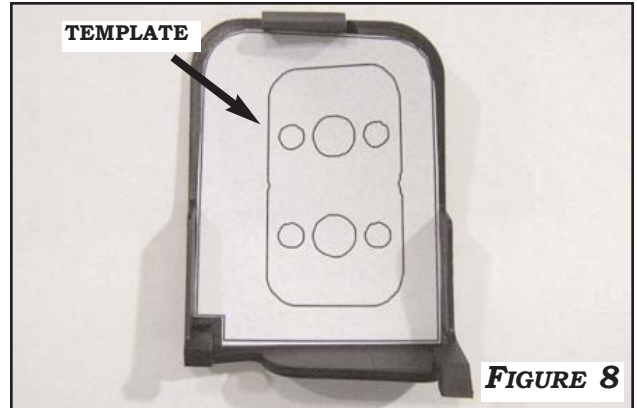

FIGURE 8
1. USING THE **SWITCH HOLE CUTTING TEMPLATES** ON PAGE 7, PLACE THE TEMPLATE ON THE INSIDE OF THE TRIM PIECE AS SHOWN AND DRILL A 1 1/2" HOLE INTO THE SHROUD FOR THE CONTROL SWITCH. **FIGURE 8**